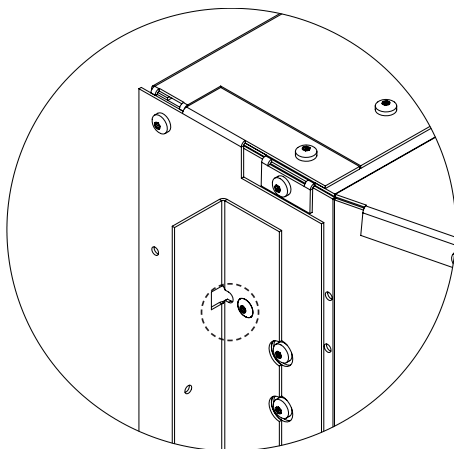

Figure 42: Installation for Contemporary and Extruded Surround.
1. Install the two Trimmable Panel brackets onto the unit using a T-20 Torx screwdriver. See Figures 40-44. for the screw installation locations. There are three sets of hole patterns on cabinet side depending on which Surround Panel is being installed. See Figures 42 and 43.